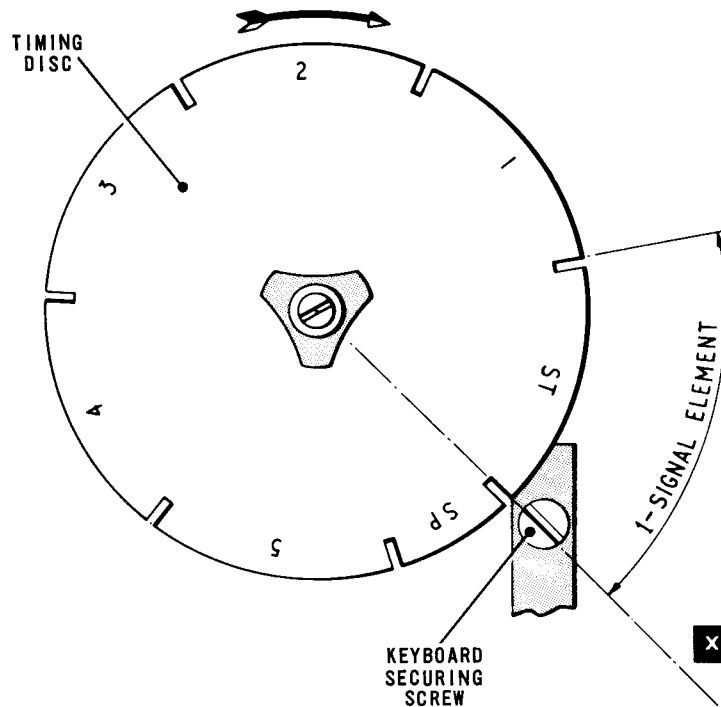

Fig. 4.66 TRANSMITTER TIMING DISC, TA 1316
- 83.2 Remove the keyboard and refit the right-hand keyboard securing screw, Fig.4.66. Position the screw so that its slot is in line with the centre of the translator camshaft.
- 83.6 Position the timing disc, Fig.4.66, so that the beginning of the Start signal is in line with the left-hand edge of the slot in the keyboard securing screw, i.e. datum line 'X', as shown in the figure.
83.16 Position the timing disc, Fig.4.66, so that the beginning of the Stop signal is in line with the left-hand edge of the slot in the keyboard fixing screw, i.e. datum line 'X', as shown in the figure.
83.19 Return the machine to the rest position and again set up the Letters code (MMMMM) on the pins. Transfer the continuity tester to the Start contacts (2nd from the rear). Turn the machine slowly by hand until the Start contacts just close, and position the timing disc, Fig.4.66, so that the beginning of the Start signal is in line with the datum line 'X'.